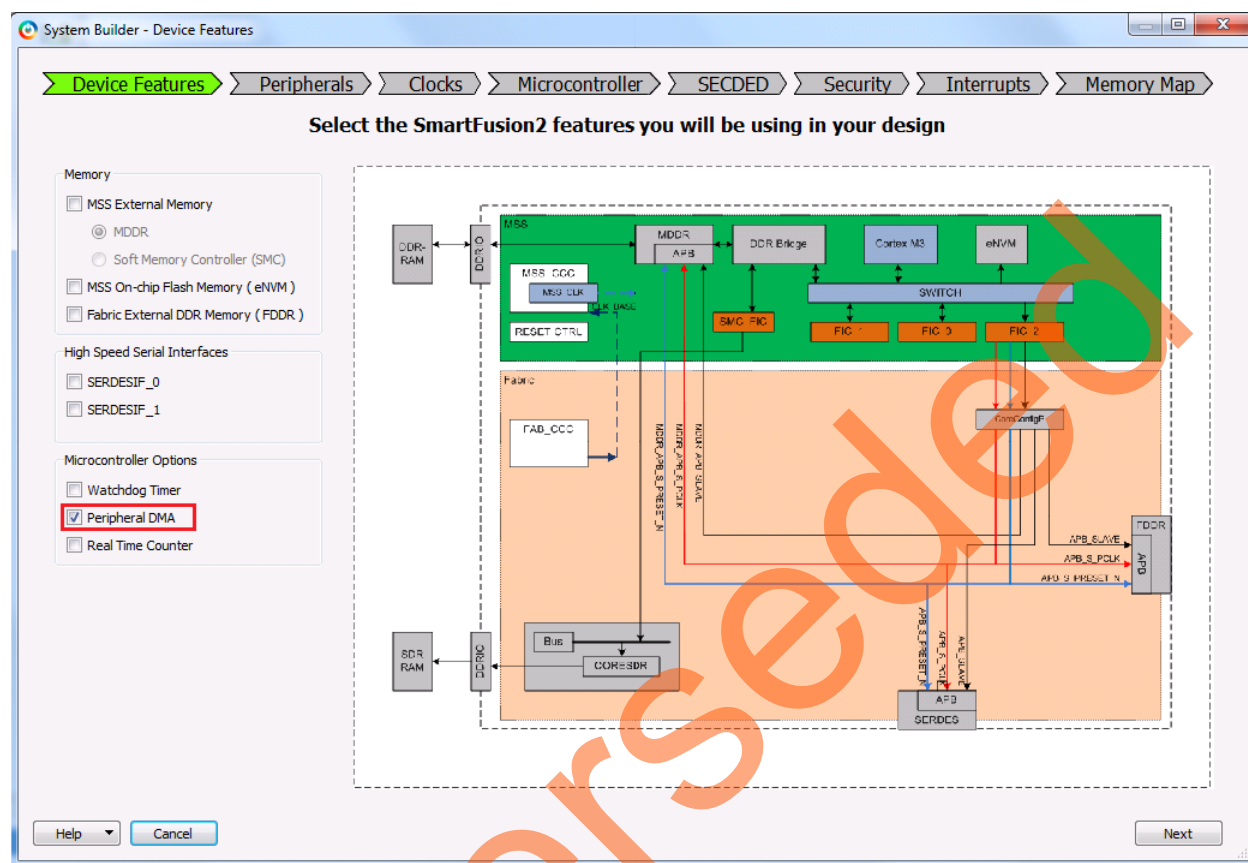

Figure 6 • System Builder – Device Features Page
- In the **System Builder – Device Features** page, check the **Peripheral DMA** check box under **Microcontroller Options** as shown in Figure 6.